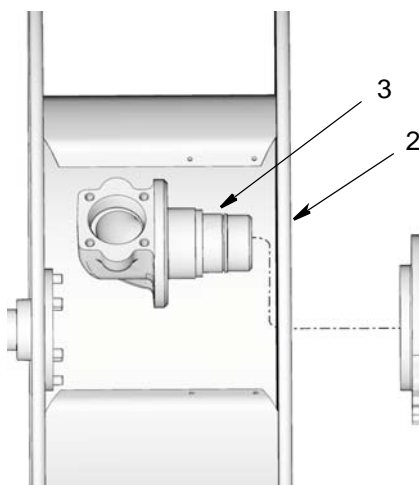

FIG. 25
22. Remove Swivel (3) from spool.
- d. Remove swivel (3) from inside of spool (2) (FIG. 25).